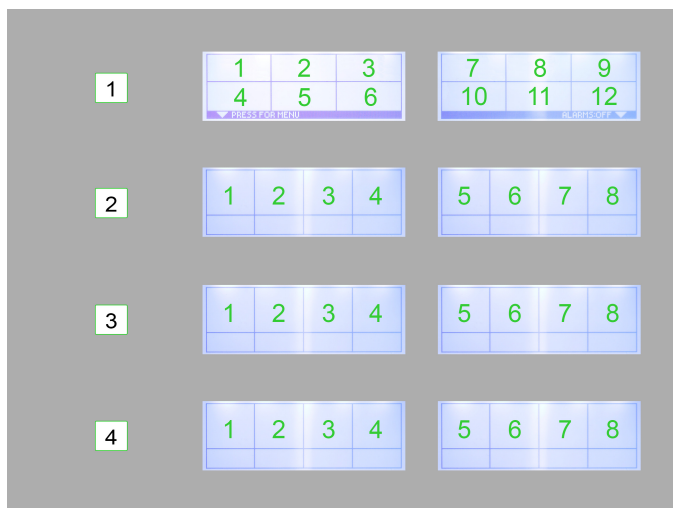

Figure 15
The *POSITION* variable corresponds with position locations on the Home or layer screens. The (1) Home screen is divided into 12 position locations. The (2) Layer 1, (3) Layer 2, and (4) Layer 3 screens are each divided into 8 position locations. (See Figure 15)